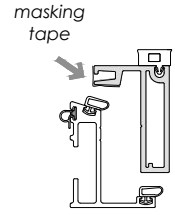

FIG. 1
- Apply masking tape around the exterior of the sash. See FIG 1.